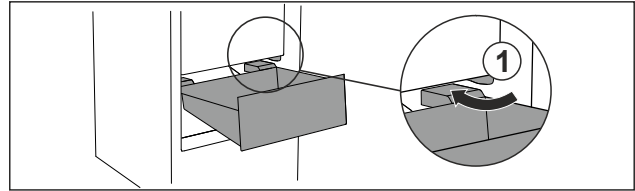

Fig. 91
- ▶ Guide drawer in at an angle around the stoppers Fig. 91 (1).